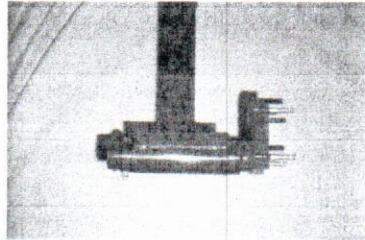

FIGURE 4
6. Slide base stands to cross bar with long side of yoke up (Figure 4). Now mount the yoke at the highest point possible on the cross bar vertical. Install 2 bars, 4 washers and 4 nuts, tighten to 30 ft. lbs. DO NOT INSTALL WHEELS AT THIS TIME. Be sure bases are parallel both horizontally and vertically.